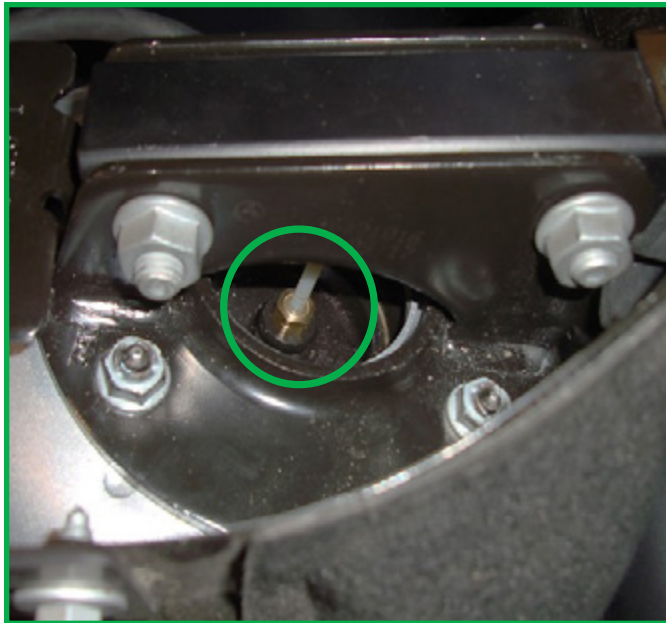

FIGURE 5
- Disconnect the air line by unscrewing the brass fitting from the strut's top mount. (Figure 5)